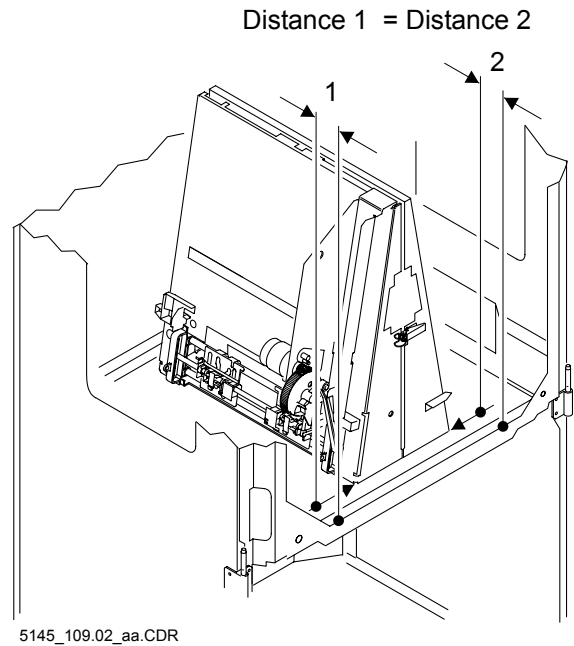

Figure 2
(1) and hole in the frame (2) are exactly
on one line (3) (see Figure 2).
- (2) Distance 1 = Distance 2 if flag is adjusted correctly (see Figure 2).